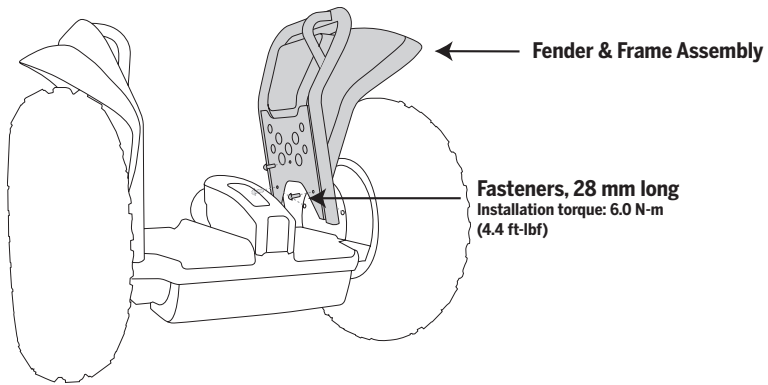

Figure 1. Removing or Installing the Fender / Frame Assembly
2. To remove the Fender & Frame Assembly from the PT, remove the (3) 28 mm fasteners using a 4 mm hex wrench. See Figure 1.